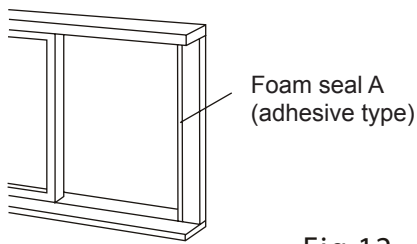

Fig.12
1. Cut the foam seal (adhesive type) to the proper length and attach it to the window frame. See Fig. 12.